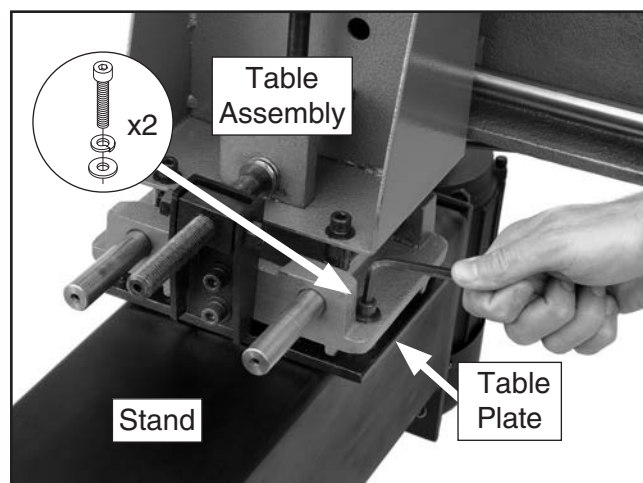

Figure 10. Mounting bottom of table assembly to stand.
- With another person's help, place the stand on its back, place the table assembly on the table plate, and align the mounting holes (see **Figure 10**).
- Fasten the bottom of the table assembly to the stand with two M8-1.25 x 35 cap screws, 8mm lock washers, and 8mm flat washers, as shown in **Figure 10**.